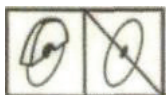

Figure 1 - Warning label - read and understand manual
5.1 Start by reading the entire Manufacture Engines Owner's Manual, Rx for Diamond Blade Safety, and Rx for Concrete Saws by the Masonry and Concrete Saw Manufacturers Institute. Then, read the entire JS operations and maintenance manual. Get familiar with the machine's parts. See Figure 1 through Figure 32.